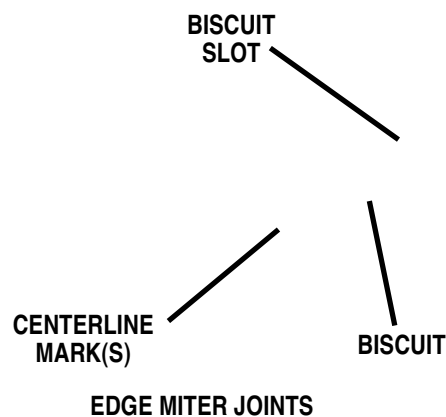

Fig. 17
- Place the pieces of wood to be joined on a level workbench as shown in figure 17.
- Finally, disassemble workpieces and place a bead of glue in each slot. Also, spread a bead of glue over the entire surface of the joint. Reinsert the biscuits and assemble workpieces. *See Figure 17.*